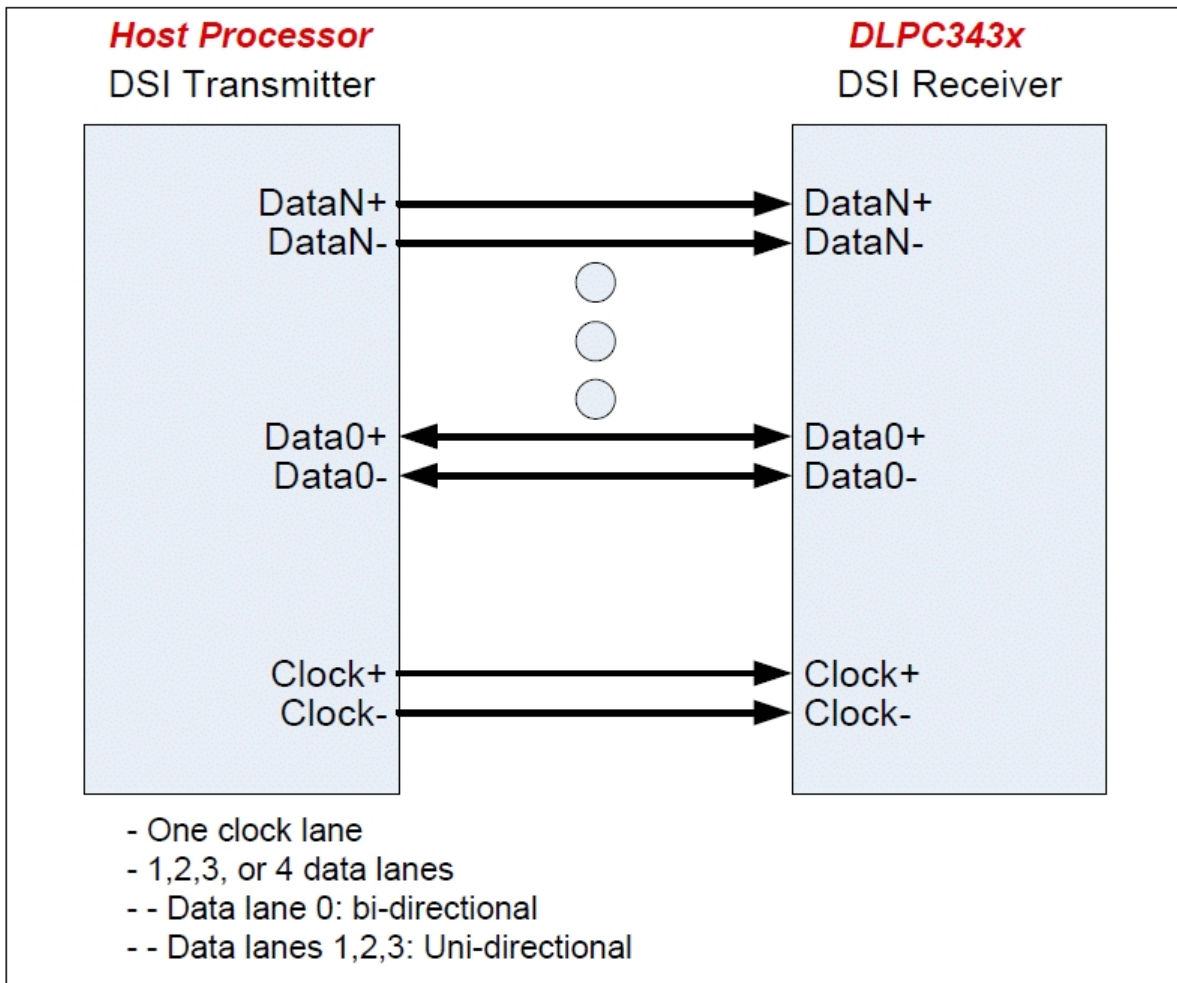

Figure 18. DSI - High Level View
The DPP343x input interface supports the industry standard DSI Type-3 LVDS video interface up to 4-lanes. DSI is a source synchronous, high speed, low power, low cost physical layer. The DSI-PHY unit is responsible for the reception of data in High speed (HS) or reception / transmission of data in Low Power (LP) mode for Unidirectional Data Lanes. Point-to-point lane interconnect can be used for either data or clock signal transmission. The high speed receiver is a differential line receiver while the low-power receiver is an un-terminated, single-ended receiver circuit Figure 18 shows a single lane module with PPI Interface.